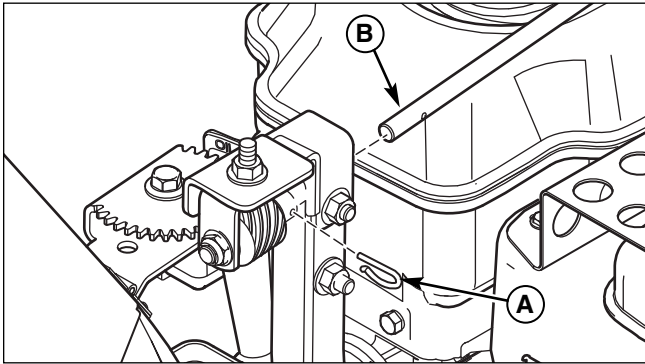

Figure 33. Rotator Shaft Removal
9. Remove hair pin (A, Figure 33) and slide rod (B) backward about 3 inches (until shaft separates from the worm drive).
17. Slide spout rotator rod (B, Figure 33) into worm gear, and secure with hair pin (A).